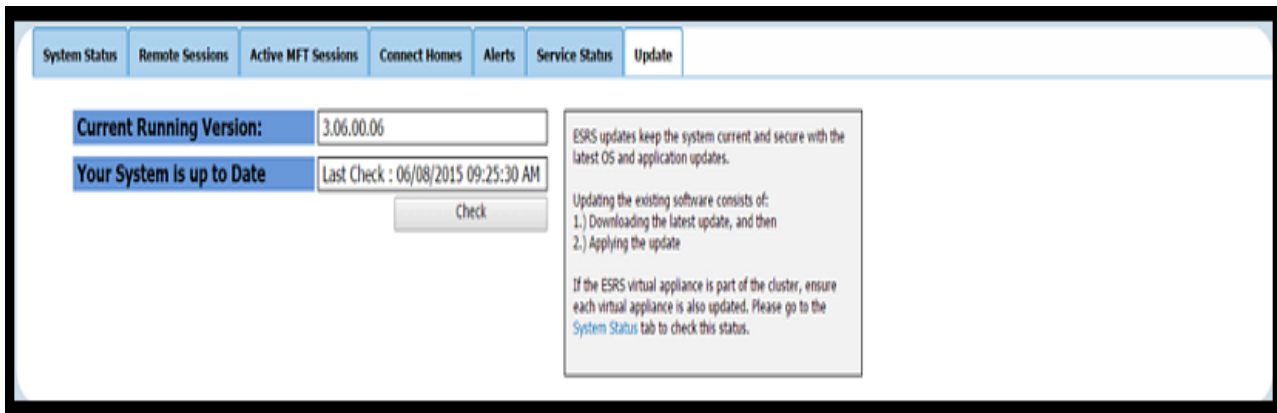

Figure 110 Validating update
10. Validate if the version has changed, as shown in Figure 110 on page 84.